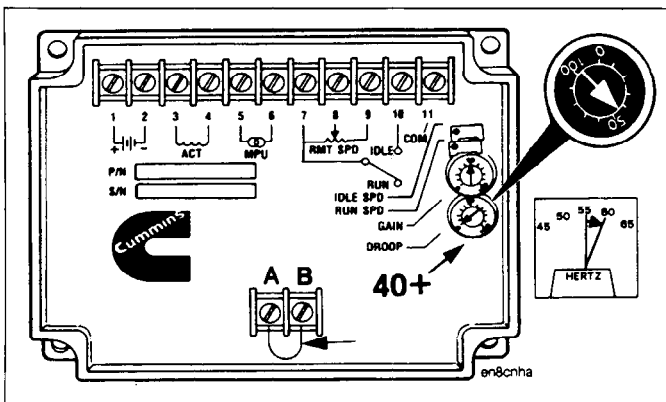

Figure 7-27. Droop Pot.
2. Turn the droop potentiometer counterclockwise slowly until it is 60 Hz or 50 Hz. (Figure 7-27).